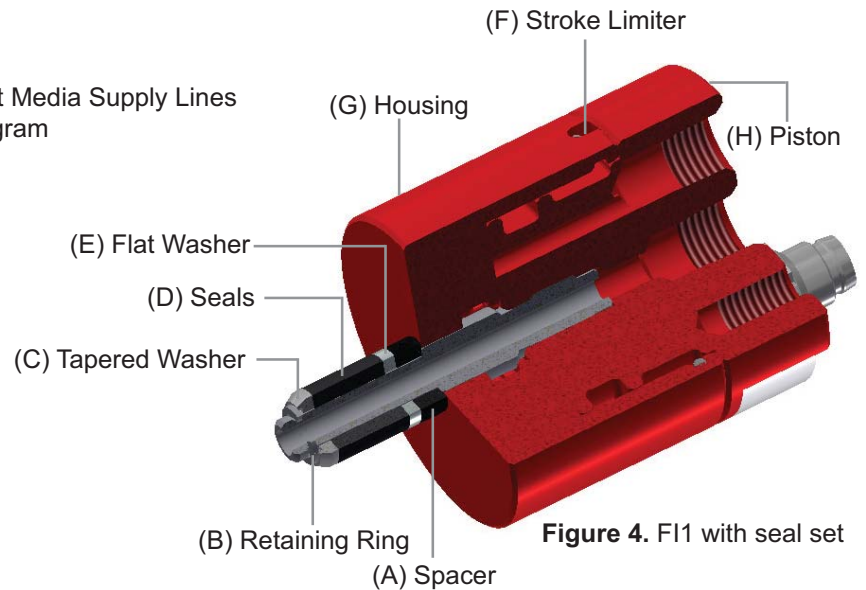

Figure 4. FI1 with seal set
- 1.3. Assemble seal set onto shaft per Figure 4.